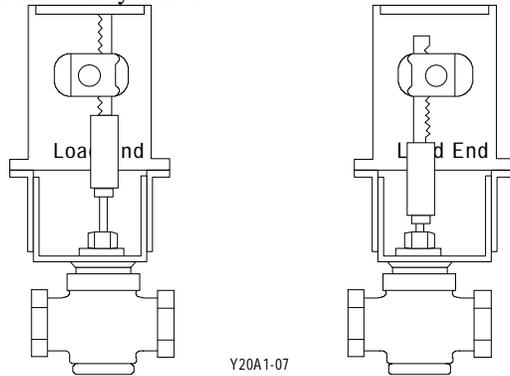

Figure 7: Stem Up/Drive Down and Stem Down/Drive Up
3. For valves with the stem in the initial up position, the hole in the yoke will be to the right of center when facing the load end as shown in the left illustration of Figure 7. For valves with the stem in the initial down position, the hole in the yoke will be to the left of center when facing the load end as shown in the right illustration of Figure 7.
The brackets are assembled at the factory in the low position and for stem up/drive down valve application with the hole in the yoke to the right of center as shown in the left illustration of Figure 7.